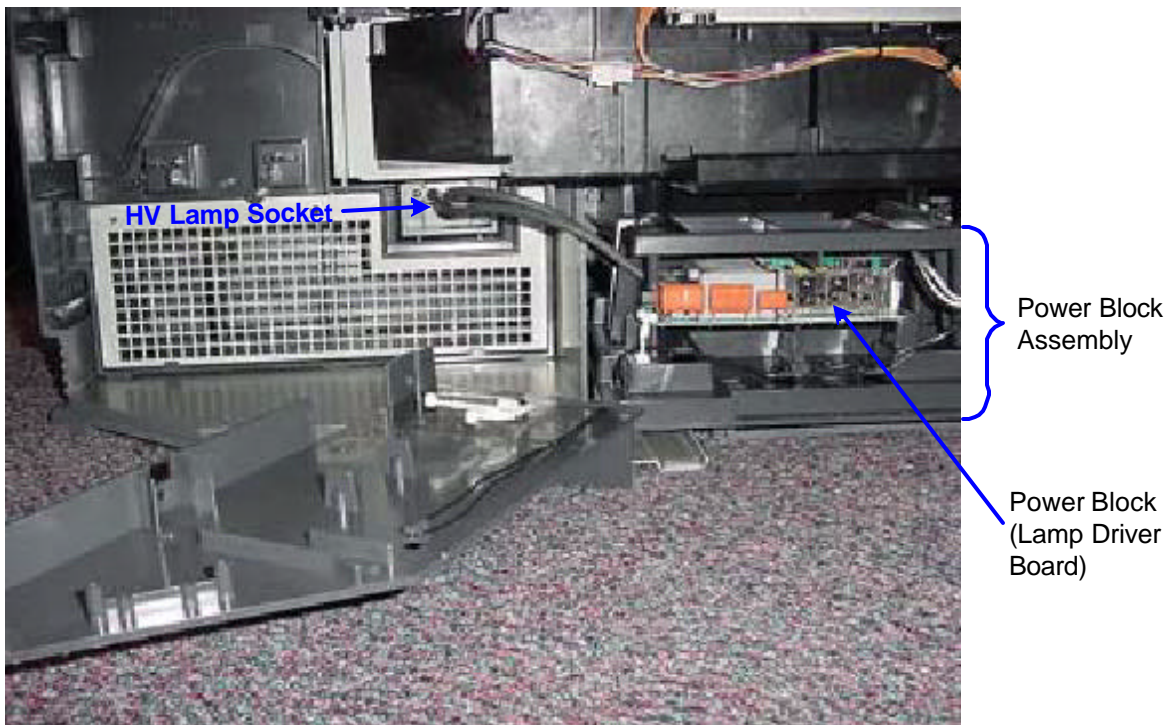

FIGURE 22-3 - REMOVE TWO HV LAMPSOCKET SCREWS
- c) Remove the two screws holding the lamp socket (Figure 22-3). The power block HV wires are not long enough to permit the power block to swing out of the way.